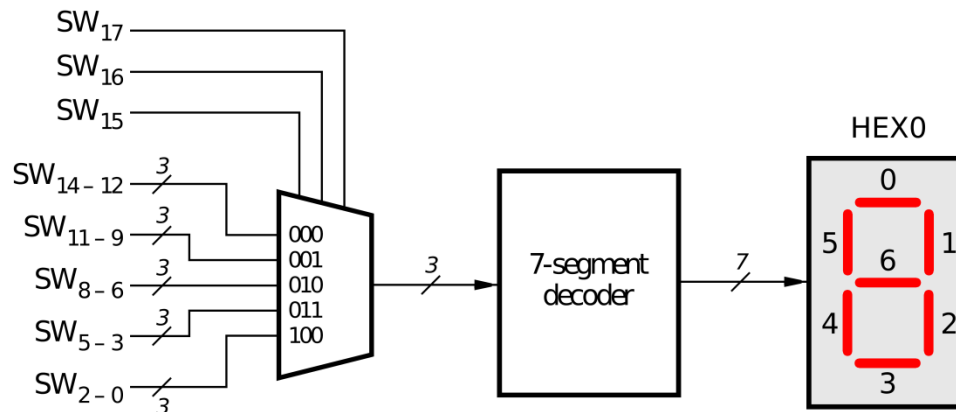

Fig. 10. A circuit that can select and display one of five characters
Consider the circuit shown in Fig. 10. It uses a three-bit wide 5-to-1 multiplexer to enable the selection of five characters that are displayed on a 7-segment display. Using the 7-segment decoder from Part V of Assignment, this circuit can display any of the five digits and 'blank'. The character codes are set according to Table 2 of Assignment by using the switches SW14–0, and a specific character is selected for display by setting the switches SW17–15.
To build this circuit you can reuse two smaller designs already created: the three-bit 5-to-1 multiplexer from Part IV of Assignment and the 7-segment decoder from Part V of Assignment. Your task is to create a new *top-level* design that implements the circuit in Fig. 10 using the multiplexer and decoder as subcircuits. You are to design this top-level circuit twice, using two different approaches:
- d) In Quartus II use the command **File > New** to create a new Block Diagram file and draw the circuit in Figure 10. Insert the symbols for the subcircuits created above, insert input and output ports, and draw the wiring connections shown in Figure 10.
2. Create the top-level design by writing complete Verilog code for the circuit in Fig. 10. An outline of this code, which shows how to include the multiplexer and decoder subcircuits in the top-level Verilog module, is given in Fig. 11. Complete this section by performing the following steps: